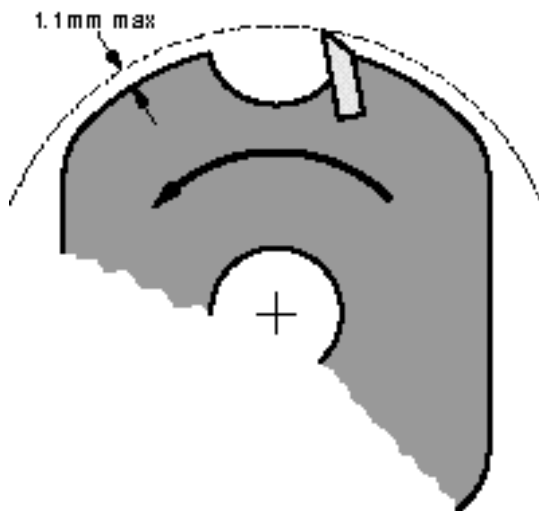

Figure 4 Example of a non-round form tool with limited cutter projection
**Non-round form tools** should be designed in such a way that cutters project a maximum of 1.1 mm beyond the edge of the tool body or limiter (see Figure 4).